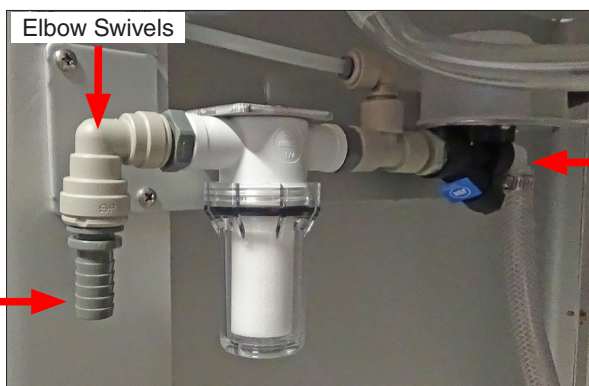

Figure 5.4d: Hose barb for ½" inch water supply hose.
- Three options are available to connect the water supply to the QUV/spray (see Figure 5.4d through Figure 5.4f).